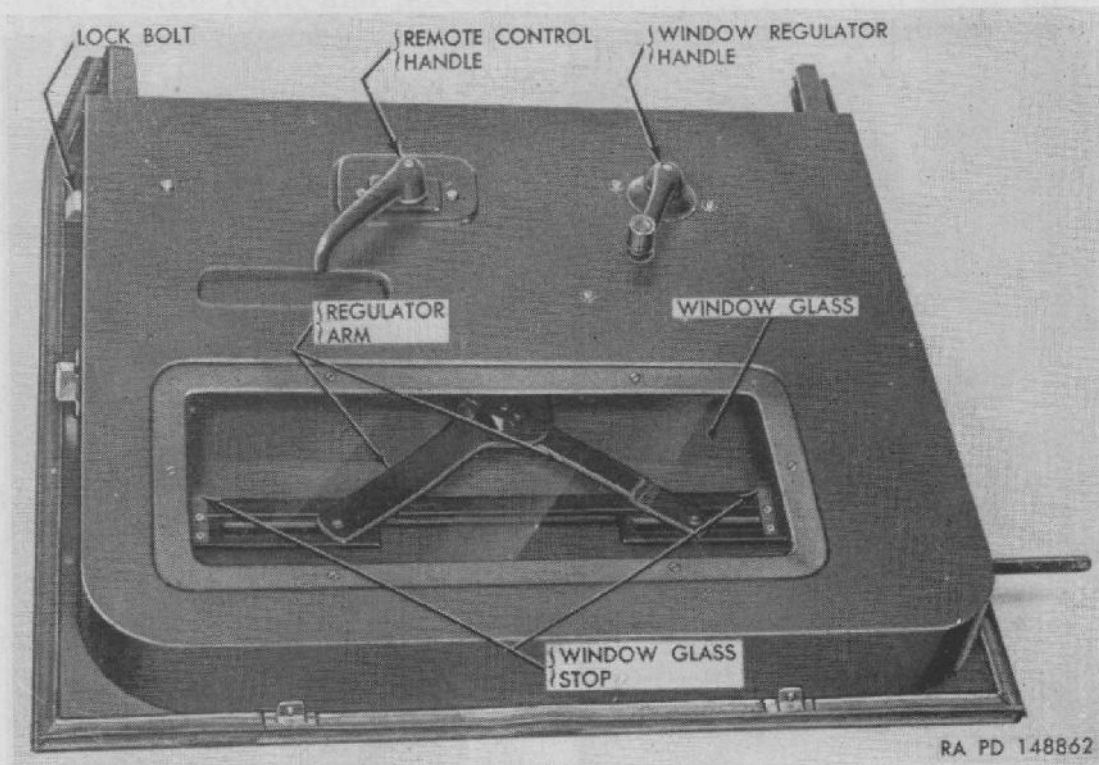

Figure 178. Door with window regulator cover plate removed.
a. GENERAL. Component subassemblies of doors, such as window regulator handle, lock, remote control handle (fig. 178), etc., can be replaced without removing door from vehicle.
- (1) *Removal.* Remove screws which attach window regulator cover to door; then remove cover and gasket. Crank window to bottom. Remove two screws which attach each window stop to stop guide rail (fig. 178); then remove both stops. Remove fasteners from both regulator studs; then spring regulator studs from slots in regulator guide rail. Withdraw frame and glass from top of door.
- (2) *Installation.* Position frame with glass through opening in top of door. Engage studs of regulator through slots in regulator guide rail and install stud fasteners. Install window glass stop on each end of regulator guide rail, attaching each with two screws. By limiting up-
(1) *Removal.* Remove window frame and glass (*b* (1) above). Remove screw which attaches window regulator handle to shaft and remove handle. Remove four screws which attach regulator to door inner panel. Disengage regulator arm from lower retainer and withdraw regulator through opening in inner door panel.
(2) *Installation.* Position window regulator in door, with regulator arm engaged in lower retainer. Start four screws attaching regulator to inner door panel; then tighten screws firmly. Position regulator handle on shaft and install attaching screw. Install window frame and glass (*d* (2) above).
f. LOCK AND REMOTE CONTROL REPLACEMENT. Door lock and remote control are removed and installed as a unit (fig. 178).